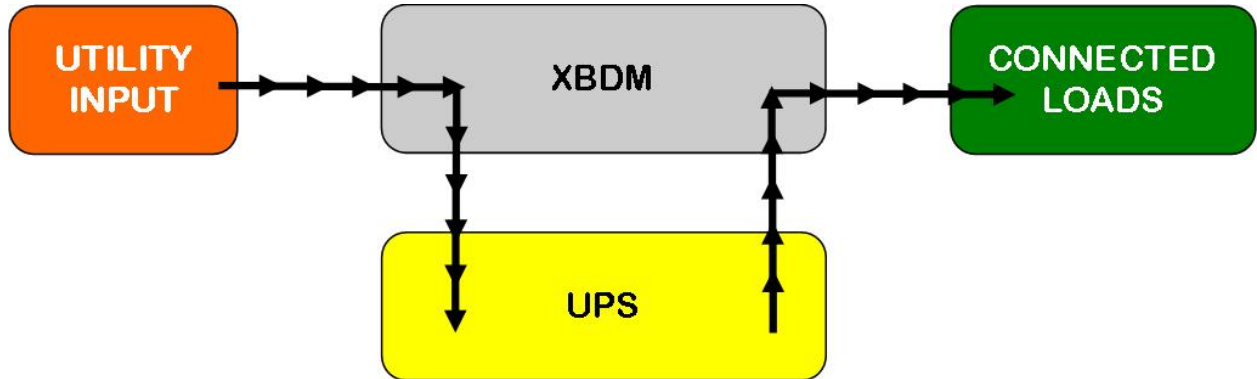

Figure 1 – Block Diagram with UPS
As shown in fig. 1 block diagram:
1. Attach the two (2) XBDM horizontal mounting brackets (included) on each end of the XBDM using four (4) retaining screws (included) see Figure 1.